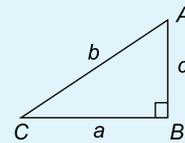

Figure 1.8
- In the right-angled triangle  $ABC$  shown in Figure 1.8, sine  $A$  is given by:
- In the right-angled triangle  $ABC$  shown in Figure 1.8, cosine  $C$  is given by:
- In the right-angled triangle  $ABC$  shown in Figure 1.8, tangent  $A$  is given by: